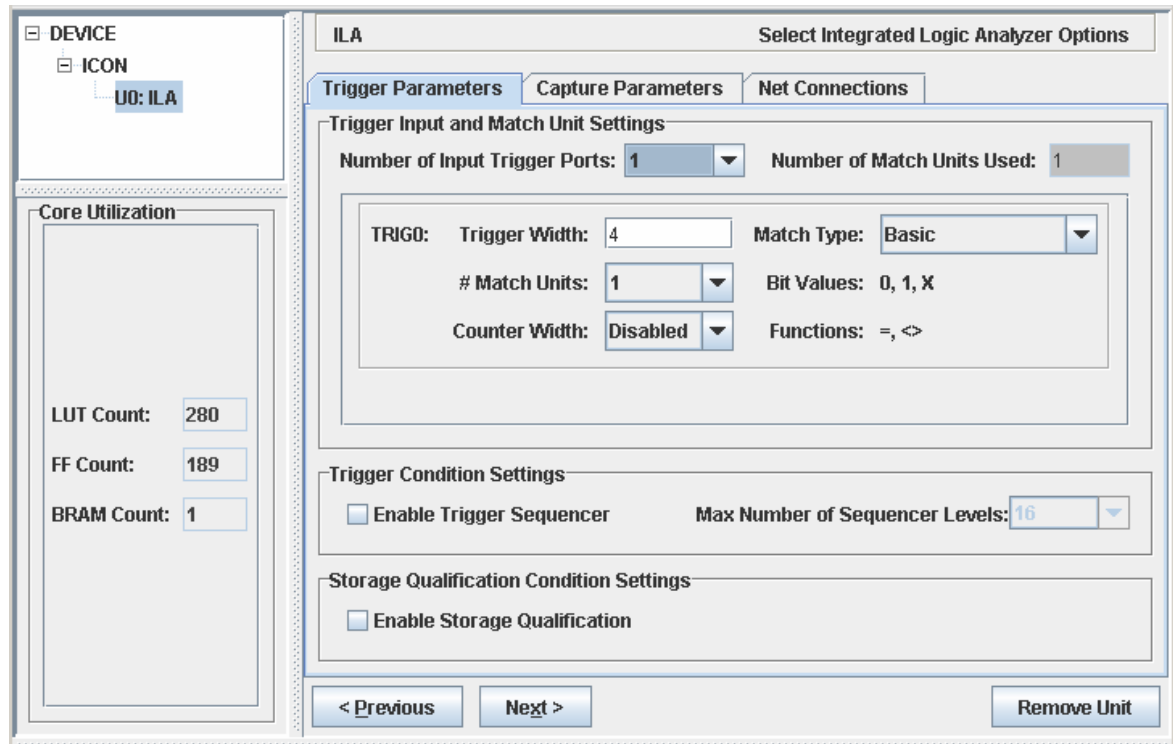

Figure 2.2 – ChipScope Pro Integrated Logic Analyzer (ILA) core Trigger Parameters.
- ❸ Click Next.
- ❹ Select **New ILA Unit. U0:ILA** gets added DEVICE window.
- ⑤ Select **U0:ILA** in the DEVICE window to customize the ILA (Integrated Logic Analyzer) options (Figure 2.2).